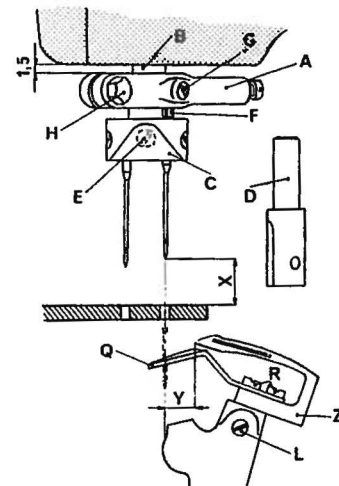
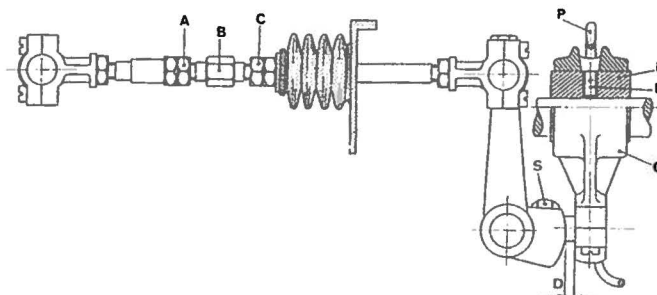

fig. 3
fig. 7
- S 1651 00 for operations as in fig 3
- S 1652 00 for operations as in fig 7
3 Setting the needle (fig 3) :
- Insert looper Z in its holder so that it goes all the way in and then tighten screw L against the flat surface of the looper (fig 3)
- Obtain measurement D using gauge S 01652.00 for the lower looper movement connecting rod (fig 7) applying same on nut S.
- Also obtain from the setting table measurement Y for the distance between the point of the looper and the side of the righthand needle (fig 3)
- Loosen counternuts A and C (fig 7) and rotate pin B in one or other direction until measurement Y (fig 3) is obtained (gauge S 1651 00)
- Slightly tighten both counternuts A and C (fig 7)
- If the stroke of the looper is retarded or advanced, both inner setting screws M of eccentric N of connecting rod O (fig. 7) must be loosened and, holding the eccentric N in place, rotate the pulley of the machine till the proper position is obtained.
Note : If this is not the case, the looper stroke must be lengthened or shortened by adjusting screw S (fig 7) thus varying measurement D. If this is done all the settings described above must be modified except those given in the first paragraph.
- Lock counternuts A and C (fig 7)
Note : When the connecting rod is moved in order to obtain distance D (fig 7) care must be taken that eccentric N is centered in relation to the connecting rod head O. Should an excessive change in distance D be necessary, bend lubrication tube P so that it is in the centre of lubrication hole O of the connecting rod.
5. Setting of front needle guard on looper (fig. 3)